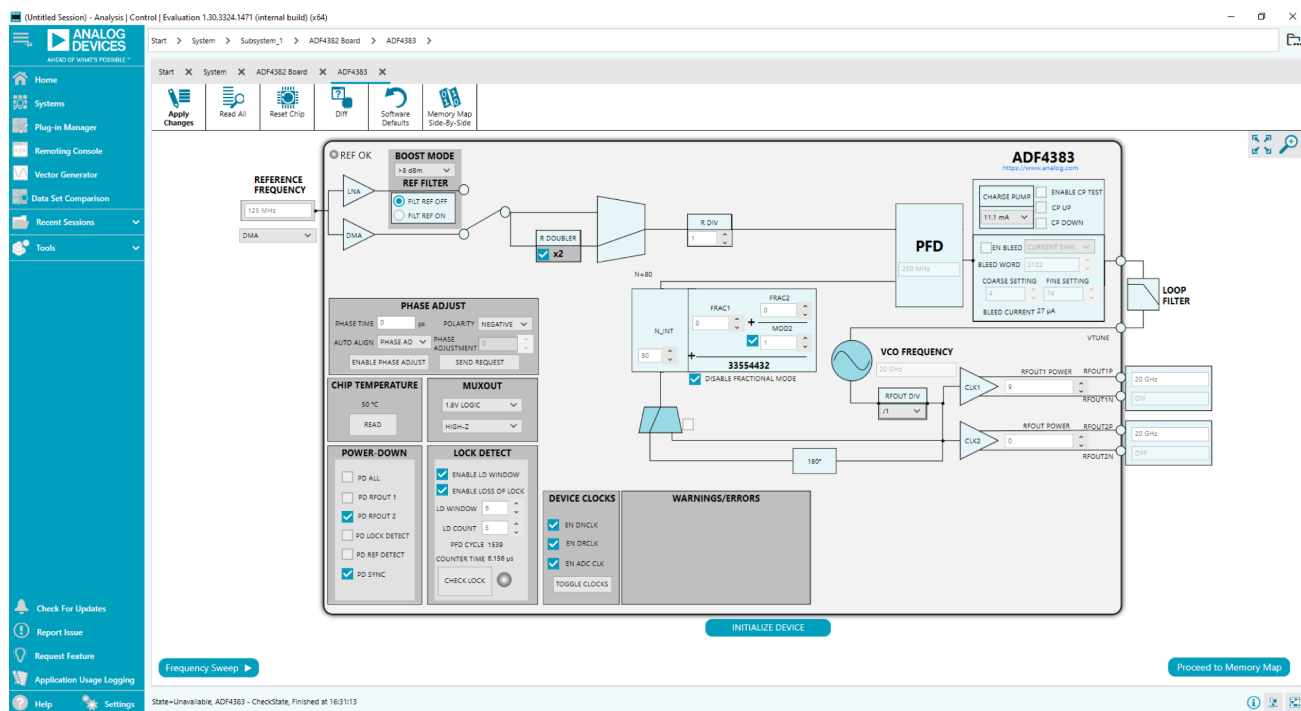

Figure 5. Front Panel
The output power of the clock output channels can be adjusted via the **ACE Software** individually using the **RFOUT1 POWER** and **RFOUT POWER** numeric selectors (see Figure 5).
The clock output channels can be powered down separately via the **ACE Software** or by hardware using the **PD RFOUT 1** and **PD RFOUT 2** check boxes (see Figure 5).
- 3. Double-click the **ADF4383** icon that appears on the board GUI to open the main control window shown in **Figure 5**.
The main controls are available in the high level register map shown in Figure 5. To modify registers, perform the following steps:
2. Click **INITIALIZE DEVICE** to write to all of the registers and to initialize the device (see Figure 5).
If the RFOUT frequency selected is outside of the operational range, an error message appears within the **WARNINGS/ERRORS** section (see Figure 5).
Specific blocks can be powered down by setting the corresponding power-down check box within the **POWER-DOWN** section shown in Figure 5.
The RFOUT phase can be controlled within the **PHASE ADJUST** section in the **ACE Software** (see Figure 5). To adjust the phase, perform the following steps:
Run the software and follow the steps given in Evaluation Board Software section to open the main controls shown in Figure 5.